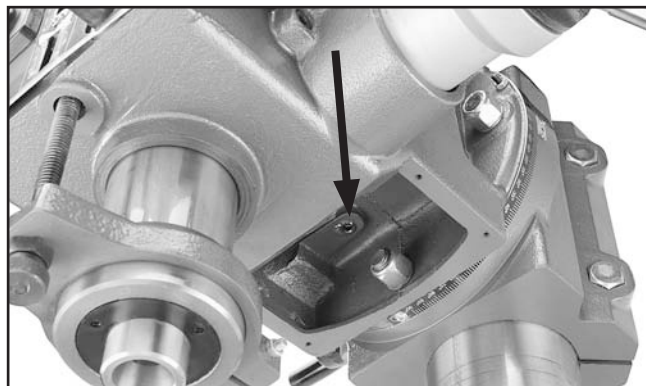

Figure 69. Location of oil drain plug.
2. Remove the gearing cover to access the drain plug (see **Figure 69**), place a catch pan under the plug, remove it with a 6mm wrench and let the oil drain out.